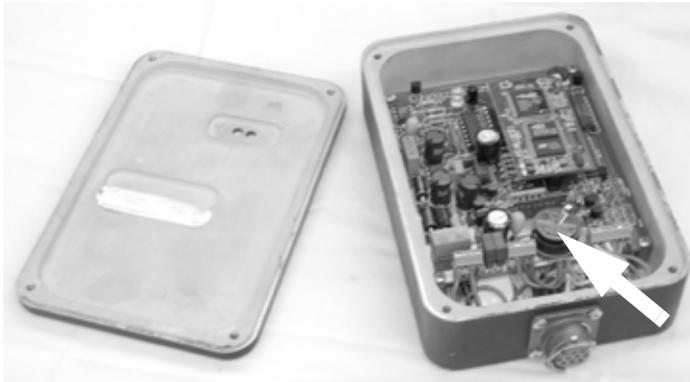

Figure 7-12. The memory battery is in a socket on the circuit board.
11. Carefully remove the back cover and turn it over to access the circuit board inside the data logger. The battery is in a socket mounted on the circuit board, as shown in Figure 7-12.